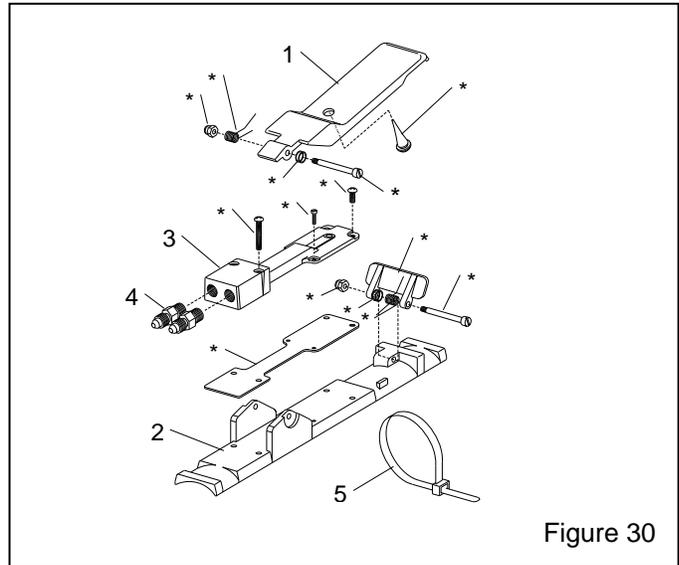

Figure 30
8.13 RLX Pneumatic Control Handle, Figure 30